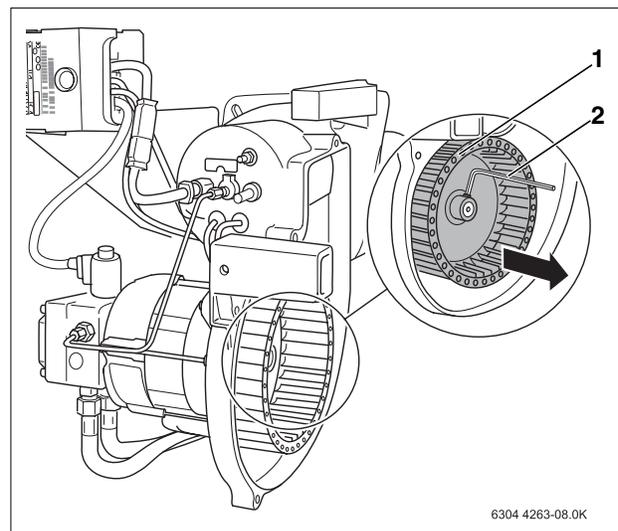

Fig 23 Test and clean the blower wheel
- Loosen and remove blower wheel (Fig. 23, **Item. 1**) with an Allen head wrench (Fig. 23, **Item. 2**) from the spindle.
- Reassemble blower wheel and air intake housing (Fig. 23, **Item. 1**).